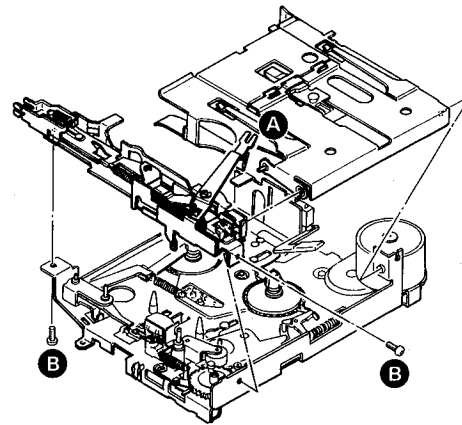

Fig. 8
2. Remove the **A** portion of the Loading Link. (See Fig. 8.)
3. Remove the 2 screws **B** in Fig. 8 and remove the Frame Assembly, Cassette Pack Guide and Guide Arm Assembly, and then replace the head.